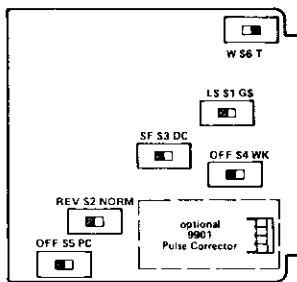

figure 5. Option switch locations
3.06 No alignment of the 6104 module is required. However, six option switches must be set before the 6104 is placed into service. These switches and their functions are described in paragraphs 3.07 through 3.11. Locations of these switches on the module's printed circuit board are shown in figure 5.